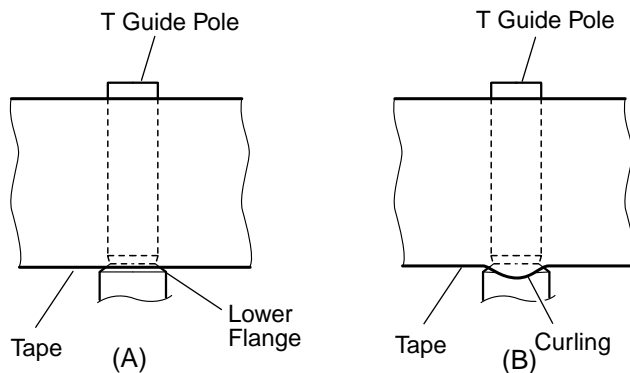

Fig. 3-6
- 2) Visually ascertain check that the top surface of lower flange of T guide pole is aligned with the bottom edge of tape. (See Fig. 3-6(A))
- 3) Gradually turn the Tilt Screw clockwise, allowing curling of tape to occur at the lower flange of T guide pole. (See Fig. 3-6(B))
- 4) Turn the Tilt Screw counterclockwise slowly (at least 2 seconds), so that tape curling which was generated in step 3) ceases, and the bottom edge of tape is aligned with the top surface of lower flange of T guide pole. (See Fig. 3-6(A))